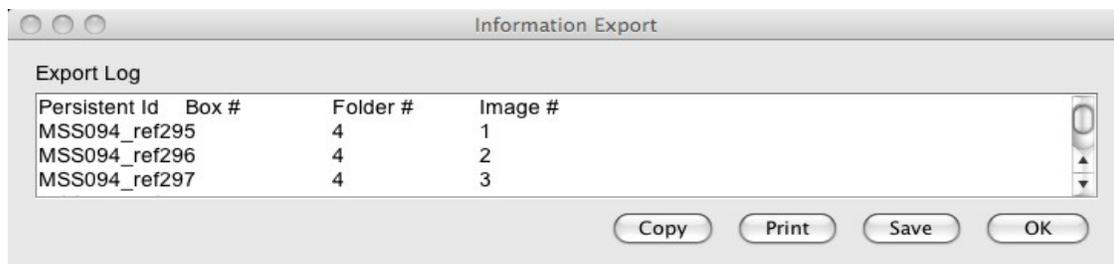

Figure 3
6. Press the “Export Work Order” button. The plugin will go through all the child components, then a dialog (see figure 3) containing the extracted information will be displayed. The tab delimited text in this dialog can either be saved to a file, or copied into a spreadsheet program.